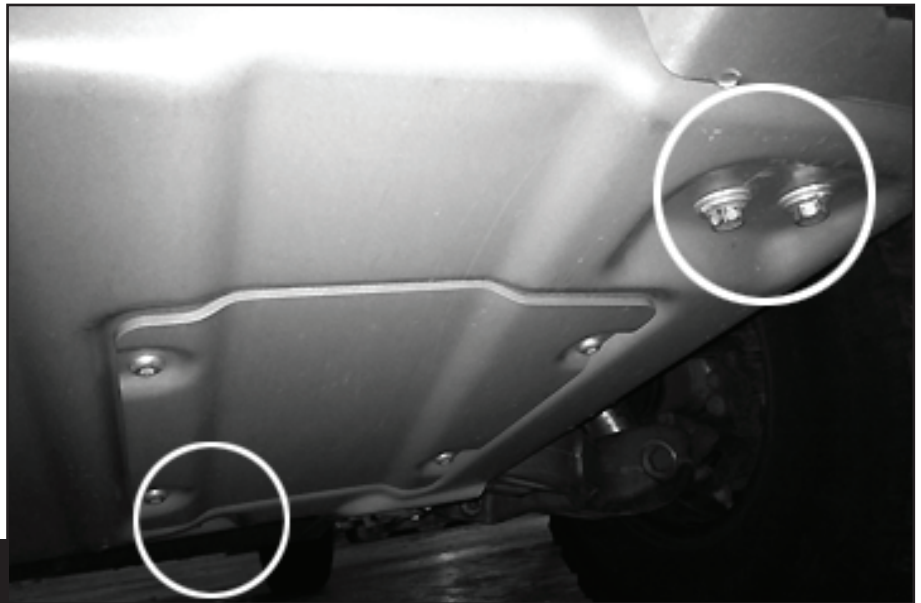

Fig 2
2. Remove (6) bolts holding on skid plate. The access cover does not have to be removed to do this. Keep all hardware for reassembly (**Fig 2**).